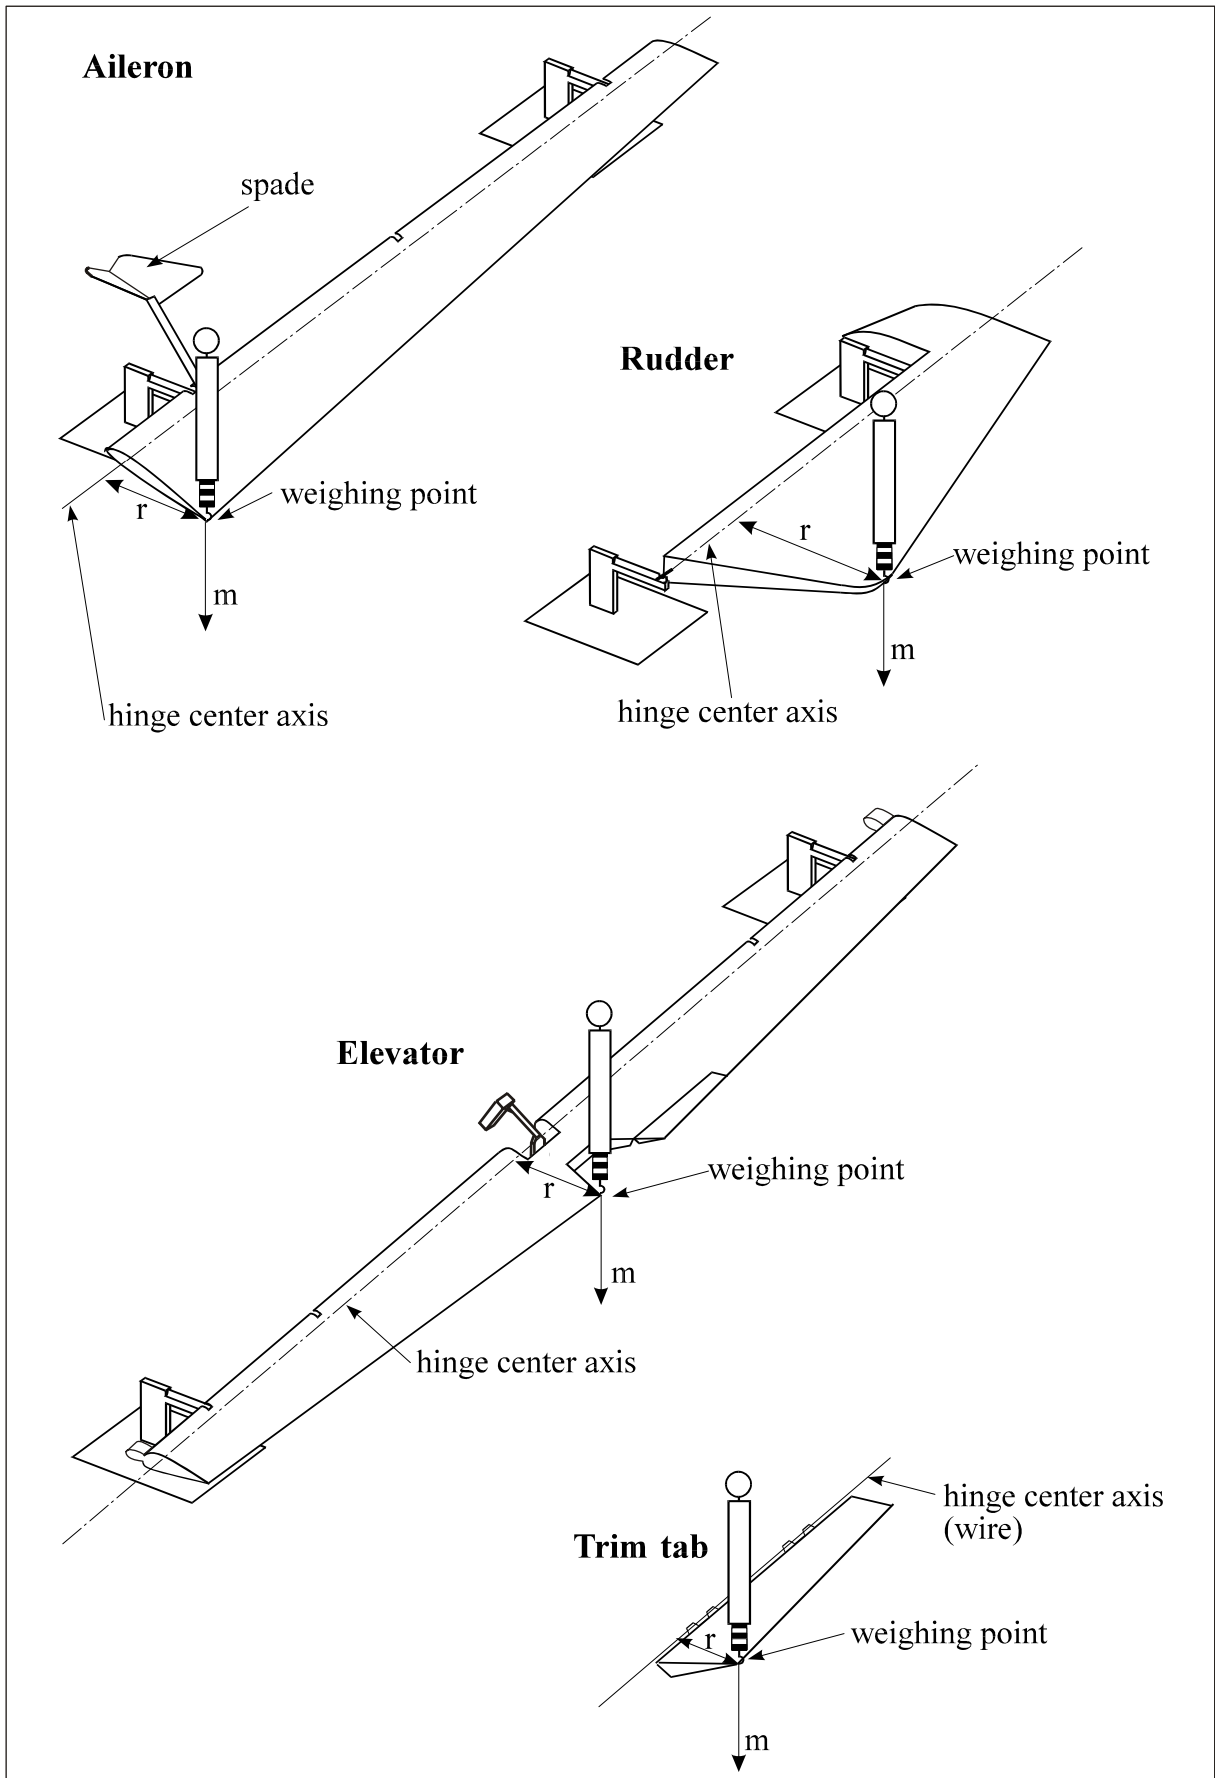
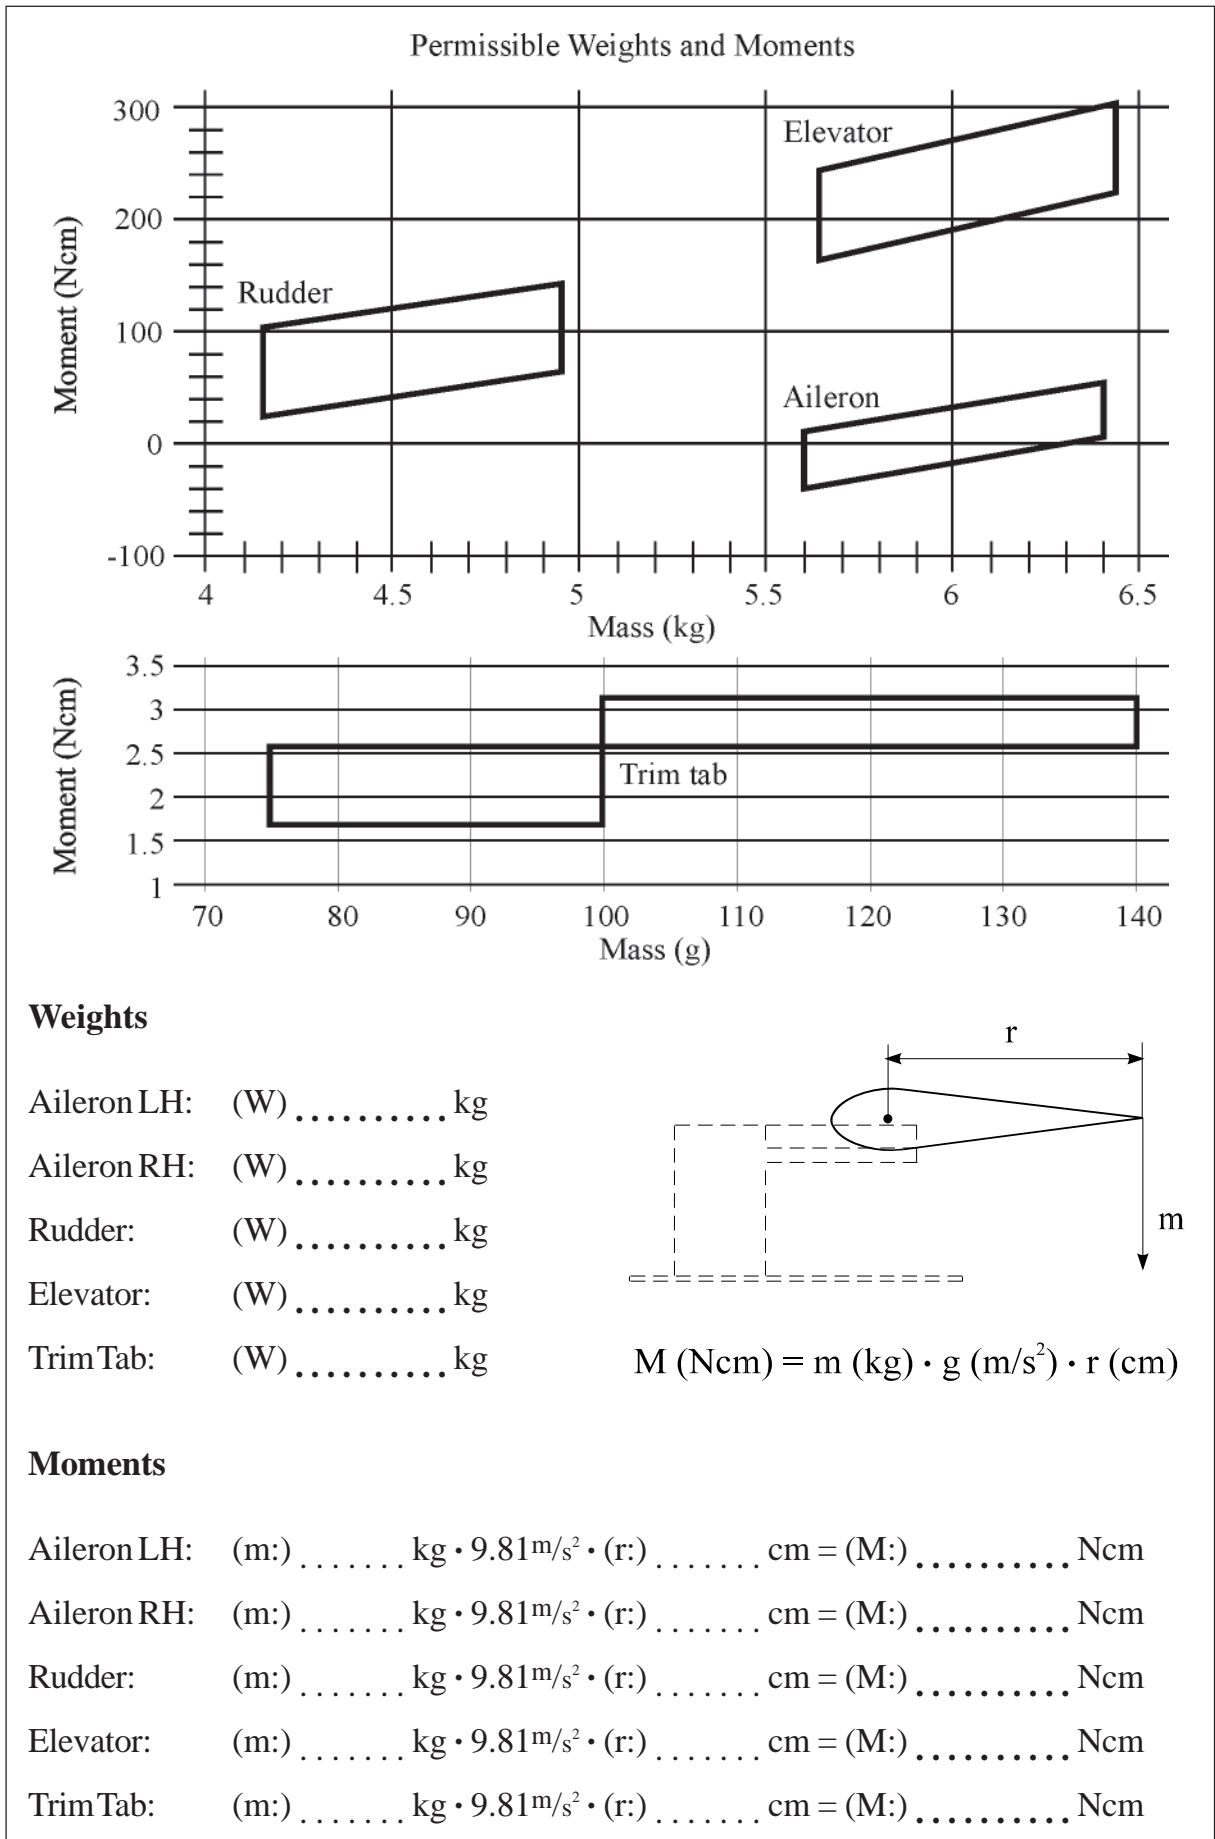

Figure 3
Figure 4 Control Surface Weights and Moments
All weighing of control surfaces is performed with surfaces removed from aircraft. Weighing and determination of control surface moments is necessary after repairs or painting. Weigh the control surfaces including the mass balances in disassembled condition. The aileron weight includes the spade. Copy Figure 4, enter the values (W, m, r) and check whether the surface weights and moments are within the given tolerances. If they are not, contact the manufacturer for advice.
- 4 Level control surfaces and weigh by means of a conventional spring balance (kg/g-indication) at the given weighing points (figure 3) and enter the weight (m) in figure 4.
- 5 Measure distance of hinge center line to weighing point (r) and enter the value in figure 4.
- 6 Calculate the control surface moment (M) in figure 4.
If values exceed the given tolerances in figure 4 contact the manufacturer before modifying of control surfaces.
- 6 Apply the thermal curing cycle (refer to figure 3).